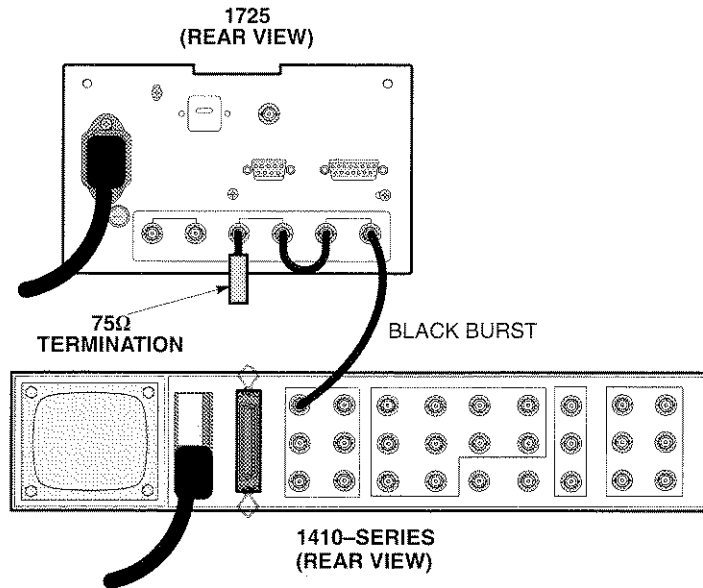

Figure 5-3: Equipment connections to check synchronization
- a. Disconnect the color bar signal and loop through connect the black burst output from the 1410 SPG2 Mod AA as shown in Figure 5-3.